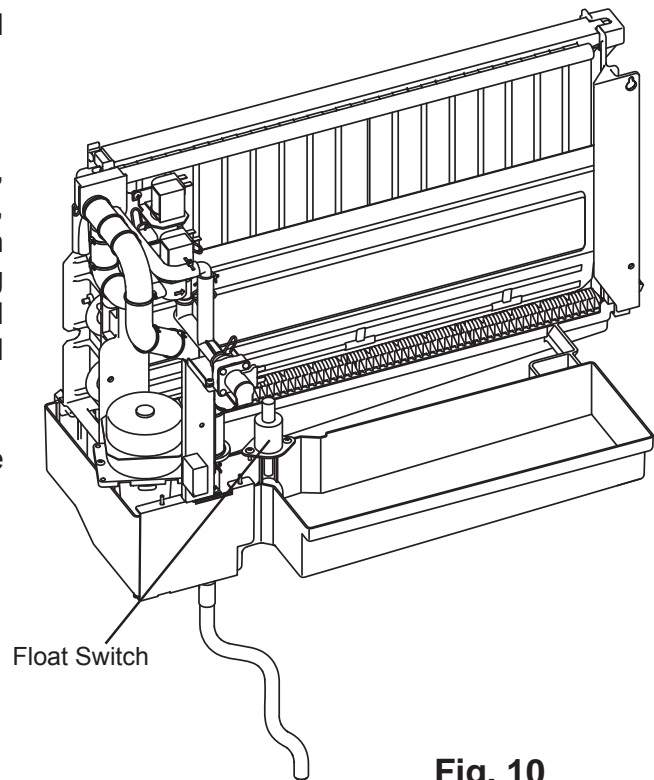

Fig. 10
- 19) Wash the bin control switch, water tank, float switch (see Fig. 10), cube guides, and overflow pipe by using a nylon scouring pad, brushes and the cleaning solution. In addition to the removed parts, also wash the bin liner and brackets (L) and (R) with the solution.